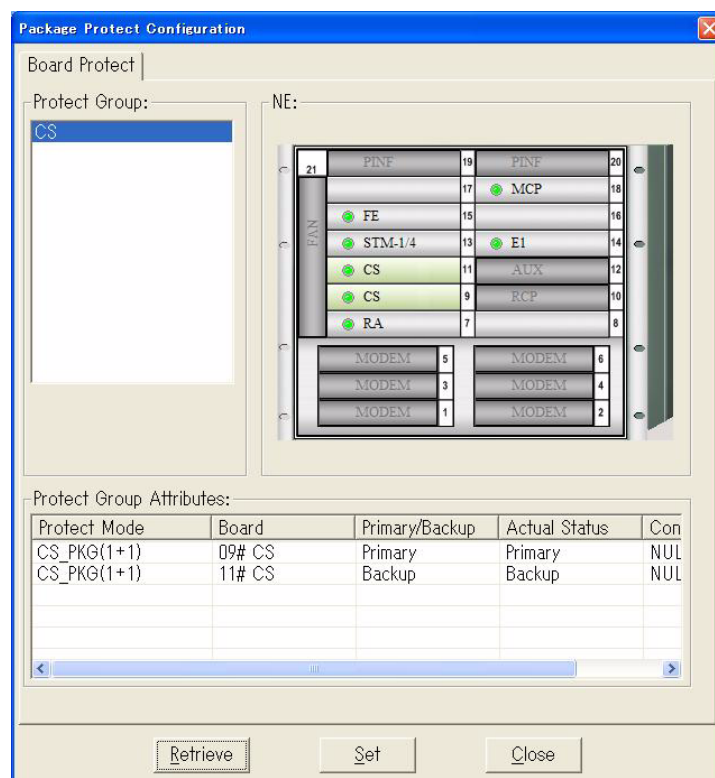

Fig. 4-4-14 Package Protect Configuration
- 3 Select **Package Protect Configuration** from the **Configuration** menu to open the **Package Protect Configuration** dialog box. The **Package Protect Configuration** dialog box shown in Fig. 4-4-14 appears: